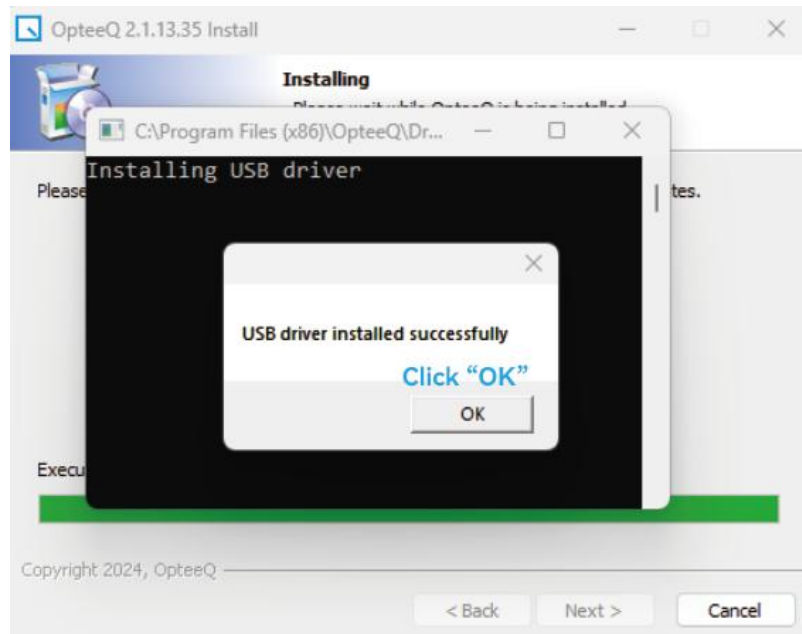

Figure 1.8 Step 8
Step 8: Click "OK" in the pop-up interface, as shown in Figure 1.8.